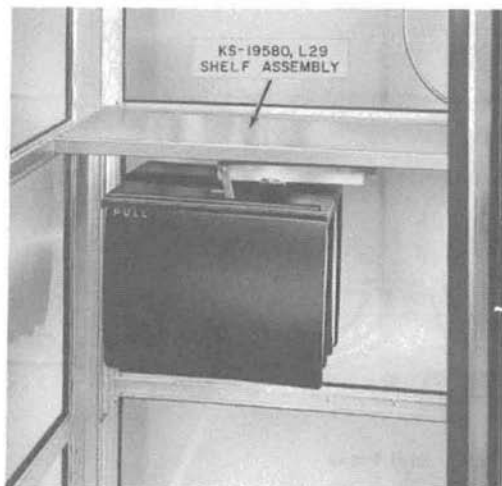

Fig. 8—KS-19580, List 29 Shelf Assembly with KS-20030, List 2 Directory Hanger
2.17 Unless otherwise specified, a KS-19580, List 29 shelf assembly is furnished with each booth (Fig. 8). The List 29 shelf will accept a KS-20030, List 1 or List 2 directory hanger; order separately.